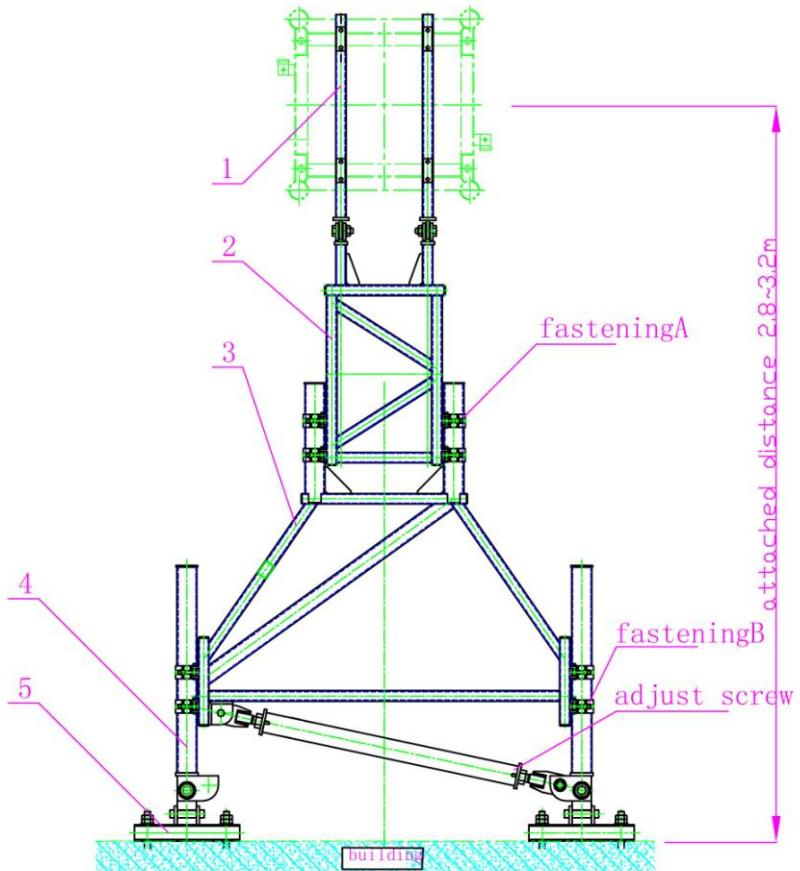

Figure 11
4.6 About installation of attachment shelf (see figure 11)